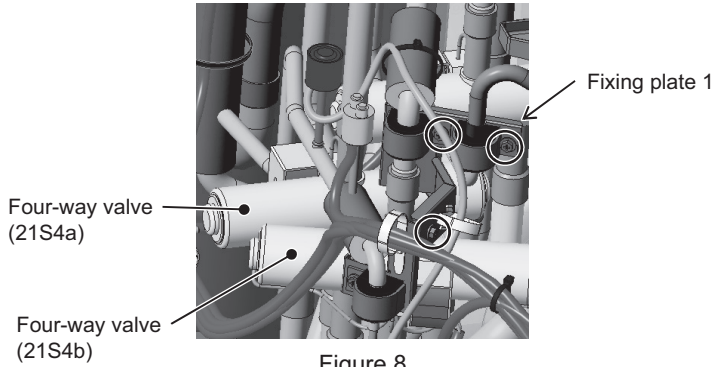

Figure 8
- (1) Remove the front heat exchanger. Refer to 8-12-7 Maintenance Procedures for the Heat Exchanger for details.
- (2) Remove the top, front, and right compressor covers. Refer to 8-12-4 Compressor Replacement Procedure for details.
- (3) Remove the fixing plate 1 above four-way valve (21S4b), saddle, and rubber spacer by unscrewing the three screws shown in Figure 8.